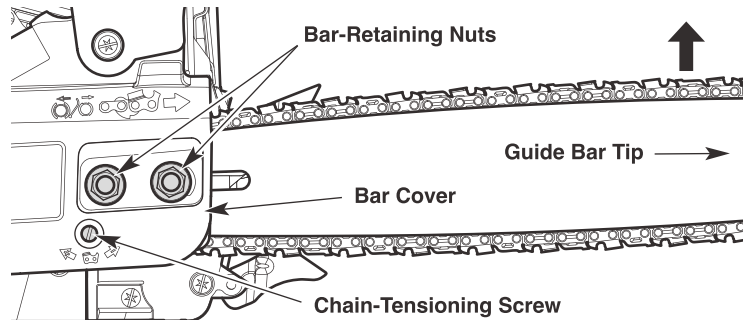

Fig. 27
2. Use the srench or a 1/2 inch (13 mm) wrench to slightly loosen the bar-retaining nuts (Fig. 27). **DO NOT** remove the bar cover.
3. Hold the guide bar tip up and use a flat-head screwdriver to turn the chain-tensioning screw (Fig. 27).